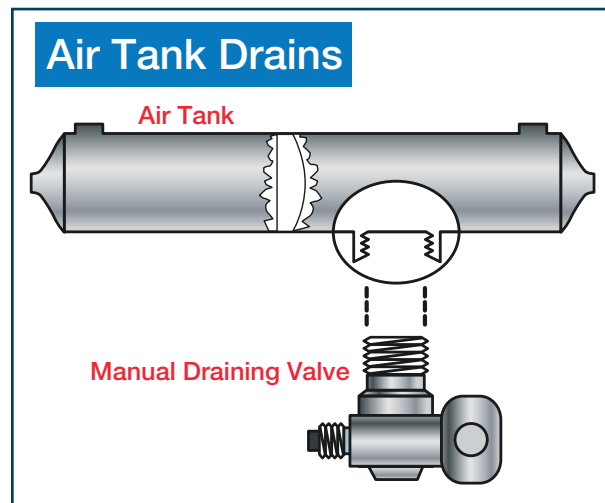

Figure 5.1
- Manually operated by turning a quarter turn or by pulling a cable. You must drain the tanks yourself at the end of each day of driving. See Figure 5.1; and